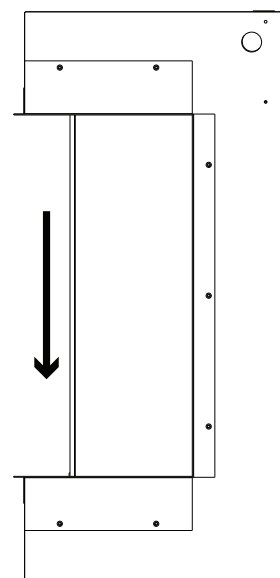

Figure 2.2
4. Slide the glass down in to the bottom channel. See Figure 2.2